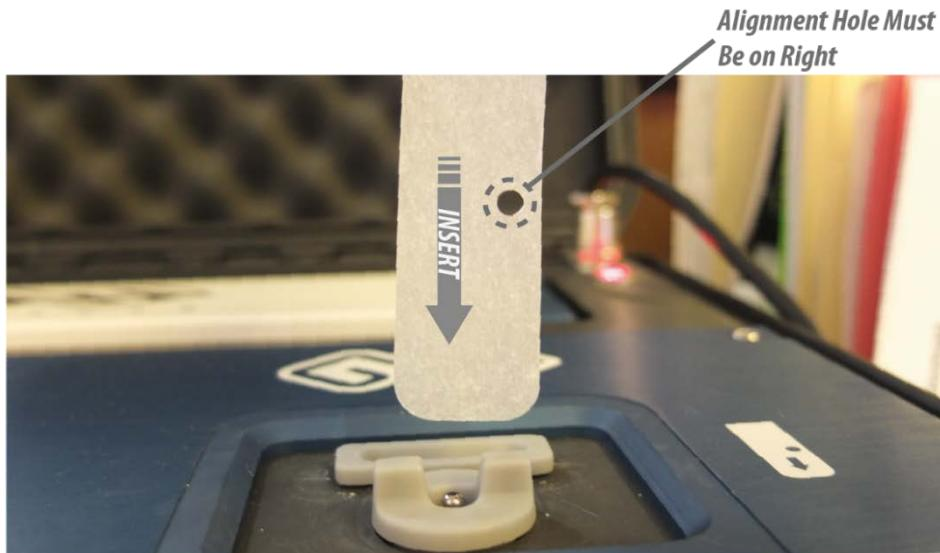

Figure 17: Swab Insertion Correct Orientation
2. Once the **INSERT SWAB** Screen is displayed, insert the Swab into the Sample Trap Holder. Ensure the Swab position is as illustrated with the round edges entering the Sample Trap Holder first, and the alignment hole located on the right as per Figure 17.